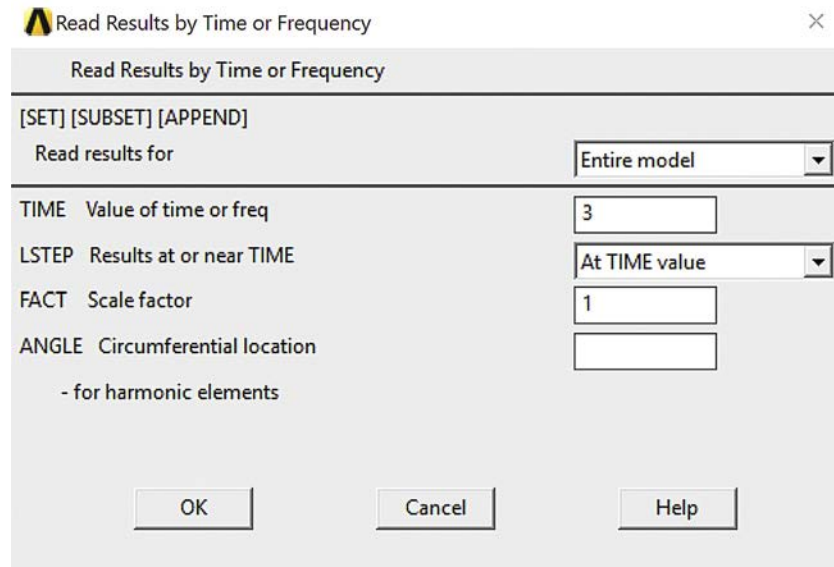

Figure 5-1-15 Choosing a Results Set by Time.
- Enter 3 for “TIME Value of time or freq” (Figure 5-1-15)